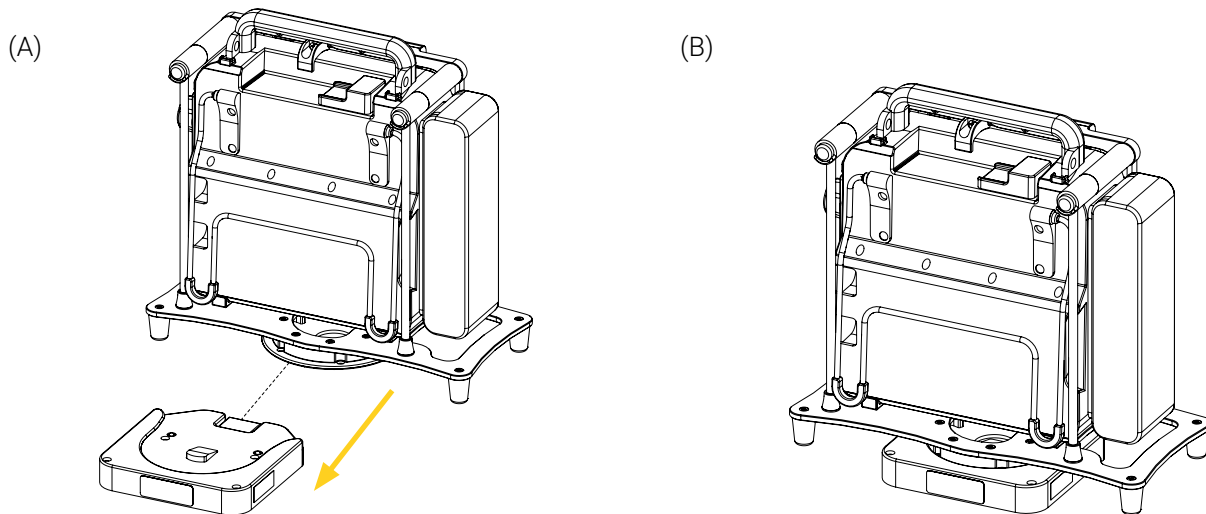

Figure 11: Installing the support bracket in the Standard Surface Base
1. Align and insert the standard bottom disc of the support bracket horizontally in the Standard Surface Base (Figure 11), paying close attention not to wedge the cables of the medical device.